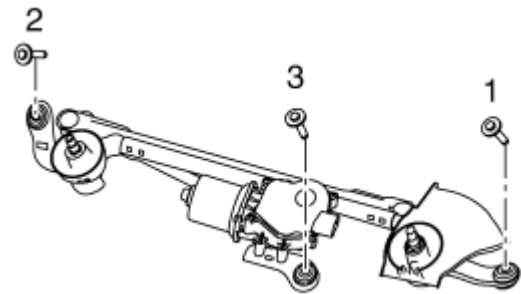

Figure 21
- Tighten the wiper drive assembly bolts to the sequence shown in Figure 21 and torque specification shown below
- Torque the (3) 10 mm retaining bolts to 8 N•m (0.82 kg-m, **71 in-lb**)